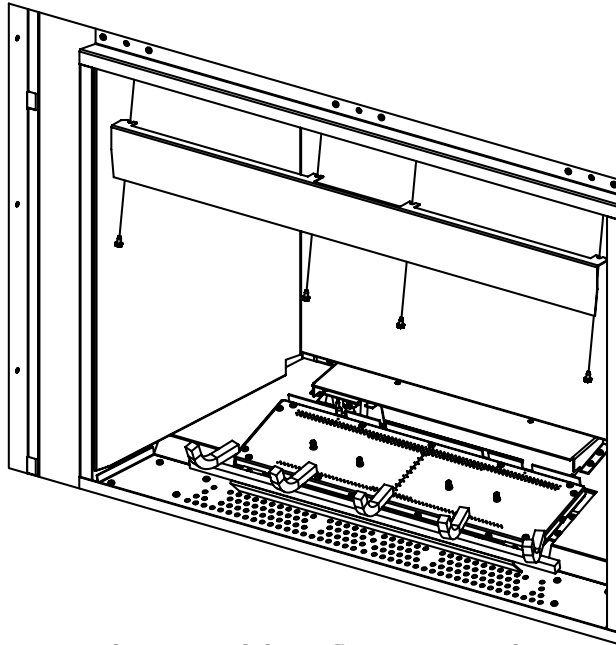

Figure 75: Light Deflector Removal
Step 2. Remove light deflector by loosening four retaining screws with a 5/16 socket (see Figure 75).